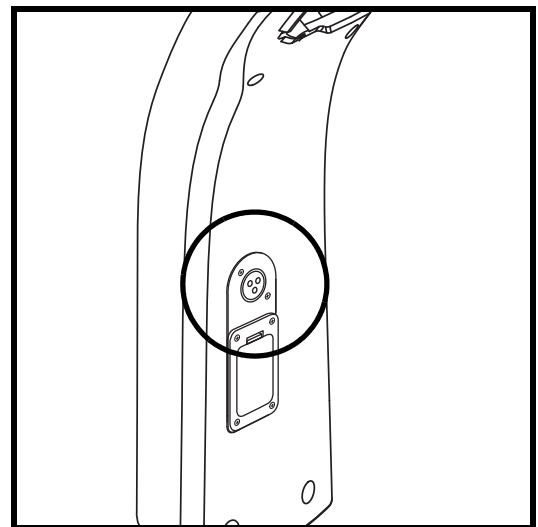

Figure 6. Off-board Charger Port
The off-board charger power lead plugs into this port when charging the batteries. See figure 6.
4. Plug the 3-pin charger power cord into the off-board charger port. **See figures 6 and 12.**